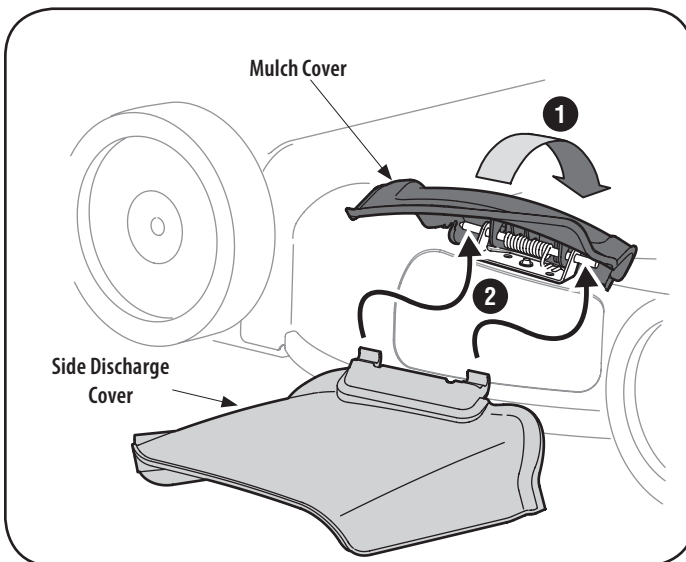

Figure 7
1. On the side of the mower, lift the mulch cover. See Figure 7.